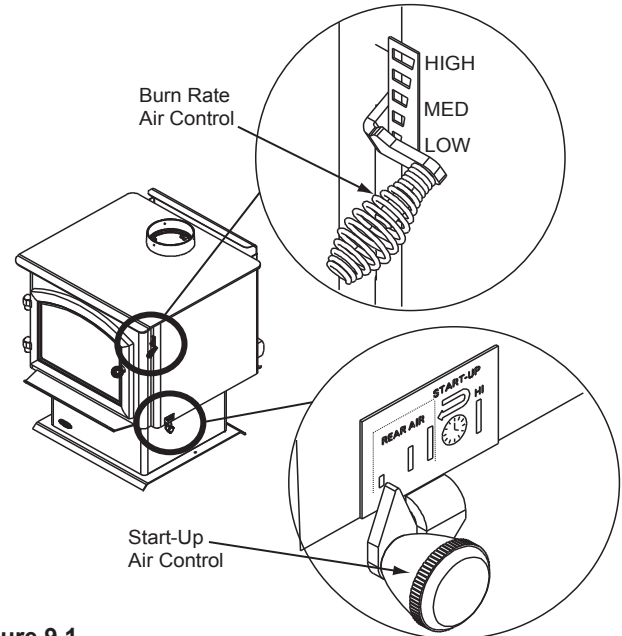

Figure 9.1
The next stage of burning, the secondary stage, is the period when the wood gives off flammable gases which burn above the fuel with bright flames. During this stage of burning it is very important that the flames be maintained and not allowed to go out. This will ensure the cleanest possible fire. If the flames tend to go out, it is set too low for your burning conditions. The air control located at the upper right hand corner is used to adjust for burn rates. This is called the Burn Rate Air Control (Figure 9.1 on page 9).
This air supply enters at the upper front of the firebox, near the top of the glass door. This preheated air supplies the necessary fresh oxygen to mix with the unburned gases, helping to create second, third and fourth combustions. This air is regulated by the Burn Rate Air Control. When the control is moved all the way up it is on the High setting and when moved all the way down it is on the Low setting (**Figure 9.1**).
Open both Burn Rate Air Control and ACC systems fully. To do this with the Burn Rate Air Controls push spring handle up to high. For the ACC timer system push knob towards back of appliance until the knob is located under the high position (**Figure 9.1**).
To maximize heat output with the ACC timer System or also known as high burn push the ACC Air Control lever towards the back of the appliance and leave. This combined with having the main burn rate control lever pushed up will deliver the most amount of air needed to achieve the highest amount of heat output (**Figure 9.1**).
- Then activate the ACC timer system by pushing the knob all the back toward the appliance to "HI" then pull forwards towards the front of the appliance until the knob stops (Figure 9.1 on page 9).